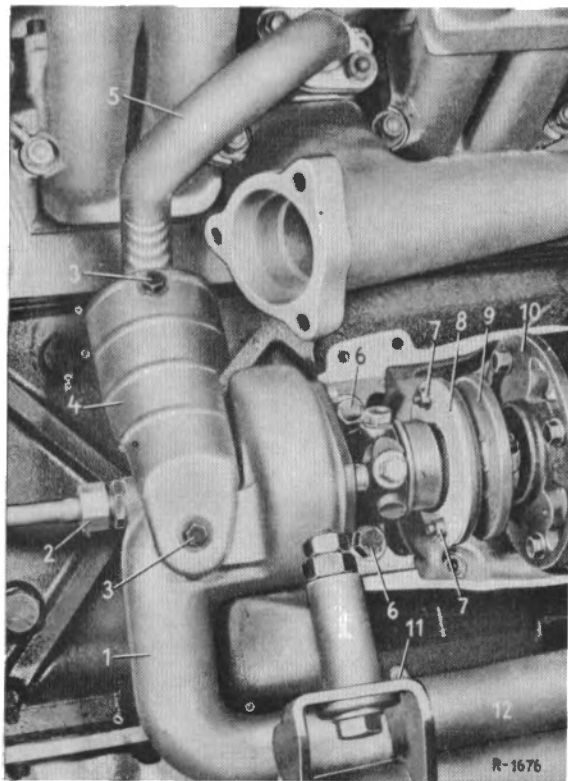

Fig. 20-1/1
2. Pull off the rubber hose (12) between water pump and radiator (Fig. 20-1/1).
3. Disconnect the cooling water line (2) to the injection pump thermostat at the water pump.
4. Remove the cover plate (4) and disconnect the by-pass line (5) from the water pump.
6. Unscrew the two hexagon nuts (7) on the water pump coupling flange (8).
7. Unscrew the two hexagon screws (6) fastening the bearing housing of the water pump to the generator bed and move the water pump out of the coupling flange of the generator.